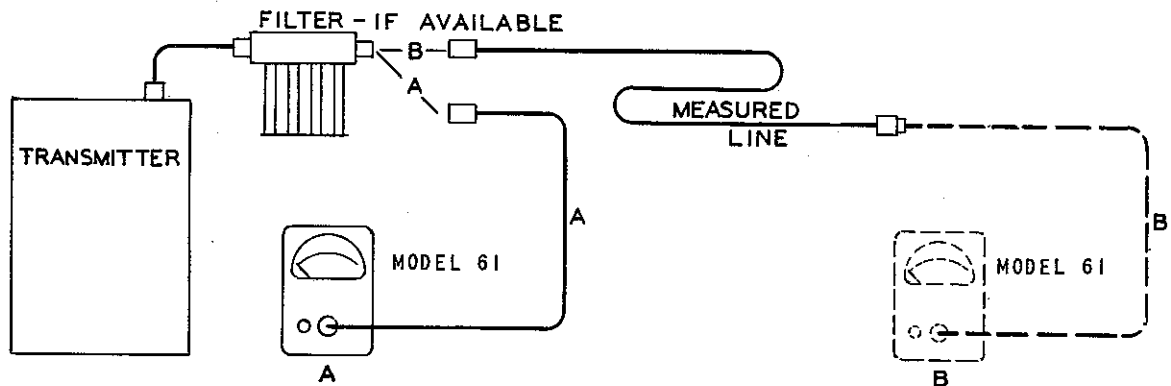
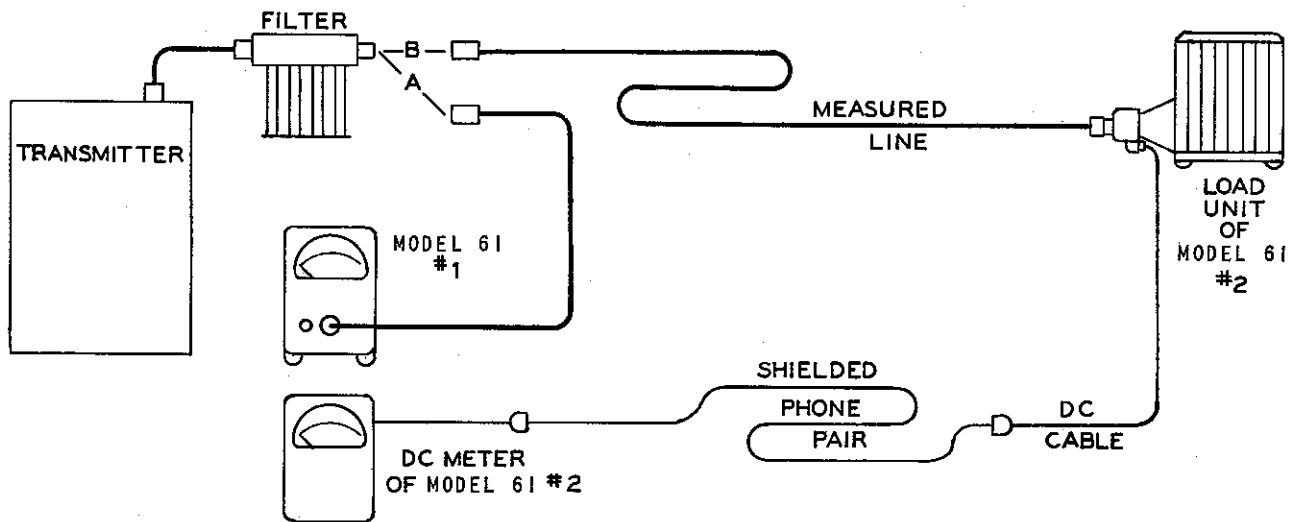

Fig. 4-2. Line Loss Measurement — Block Diagram
Fig. 4-3. Line Loss Measurement — Remote Use of D-C Meter — Block Diagram
b. TEST PROCEDURE (See Fig. 4-2 and 4-3)
(1) Connect the wattmeter to the transmitter ("A" connection of Fig. 4-2 and 4-3). Read output power and tune final stages of transmitter for maximum power output "P₁".
(2) Connect line to be measured to transmitter and connect wattmeter to far end of line ("B" connection of
Fig. 4-2 and 4-3). Read power "P₂" if the transmitter meters do not indicate a significant change in loading. Good lines terminated by the wattmeter should show little change in transmitter loading from that with wattmeter alone. Where significant changes occur, the voltage standing wave ratio of the line is high and attenuation measurements by this method should be disregarded. Cause of high VSWR should be investigated.
(1) When both ends of measured line terminate in the transmitter room, one wattmeter measurements are convenient (See Fig. 4-2).
(2) A dual set-up with wattmeters and personnel at each end of the line may be used where the far end of the line to be measured is remote, especially when a number of frequencies or parallel lines are to be checked. With readings to be taken at both ends, a telephone connection serving as an order wire will save time.
(3) Fig. 4-3 shows one way of carrying out line measurements from the transmitter room only, when far end of line is remote.
(4) Another way, when two or more rf lines run parallel between measurement points, is to join two lines with a patch cord at the remote end, then measure the loop back to the transmitter room. For identical lines, the loss of one is half the loop loss, or the loss of one good line can be otherwise determined and subtracted from the loop loss.